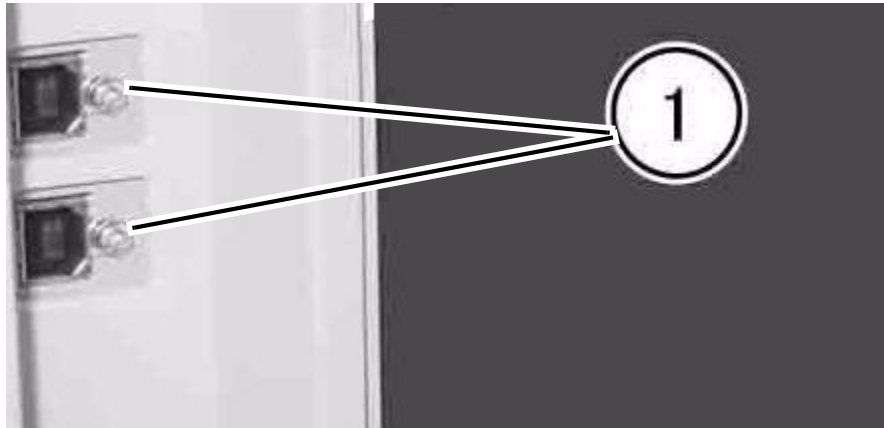

Figure 1 Remove the Screws Holding the USB Connectors
2. On the right of the machine, remove the Screws holding the USB Connectors (Figure 1).